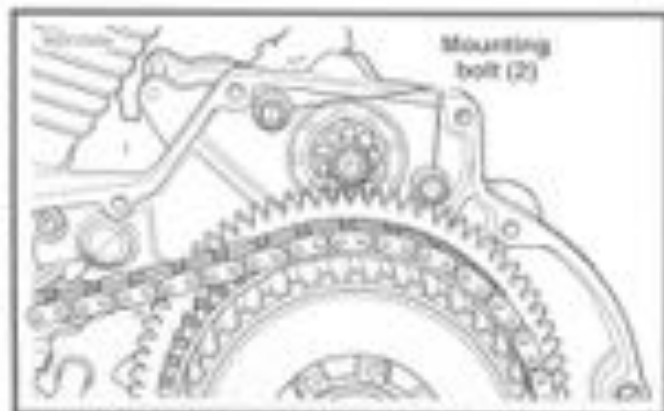

Figure 5-5. Starter Mounting
2. Remove the two starter mounting bolts and washers. See Figure 5-5.
3. See Figure 5-5. Install the two starter mounting bolts and washers. Tighten mounting bolts to 15-20 ft-lbs (18-27 Nm) torque.